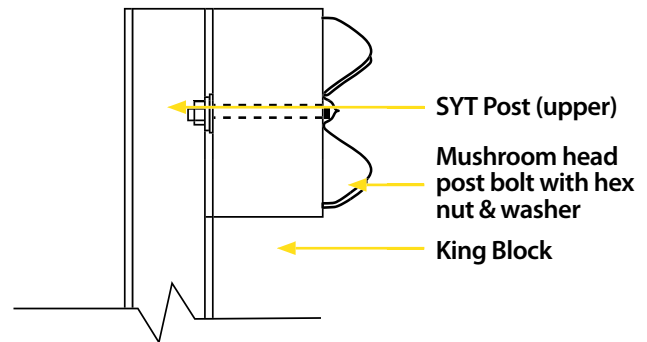

Figure 2: Attachment of King Block
- At posts 3 through 8, bolt rail panels with the correct lap orientation with a $\frac{5}{8}$ " (16mm) diameter x 10" (255mm) long mushroom head post bolt. A $\frac{5}{8}$ " (16mm) diameter round washer (C1631) and a $\frac{5}{8}$ " (16mm) hex nut (C1632) secures the rail and block to the post. The washer is located between the post and the nut. See Figure 2.